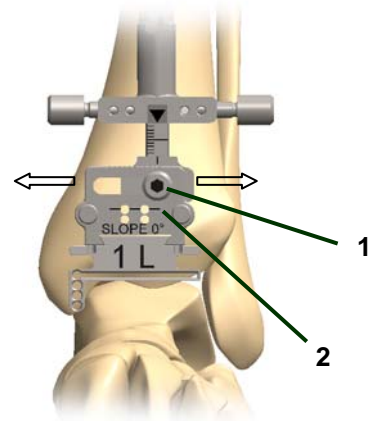

figure 5
First of all adjust the slope block mediolateral and fix the screw (1) afterwards (fig. 5).